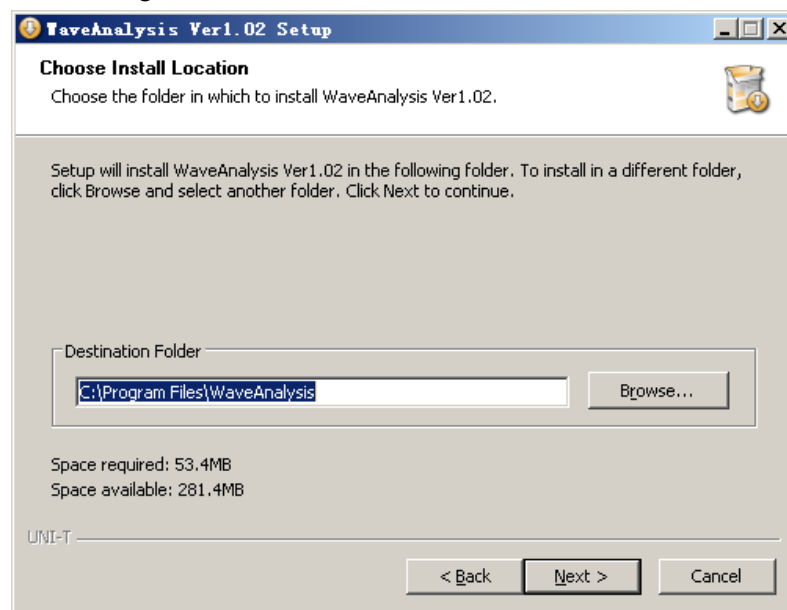
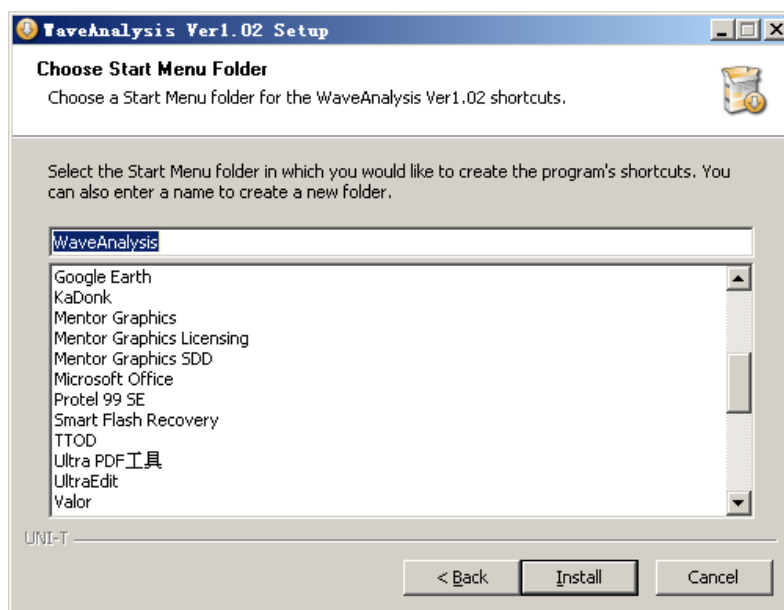
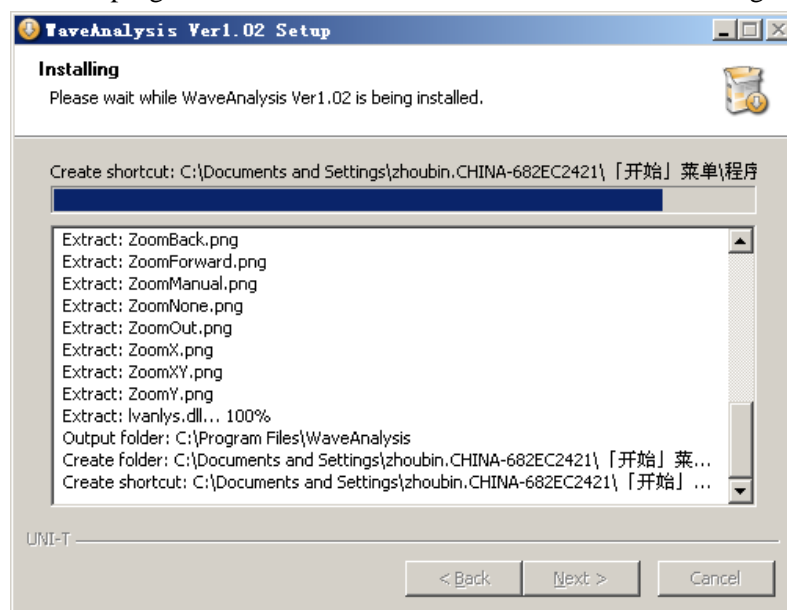

Fig. 1-4
Fig. 1-5
Fig. 1-6
Step three: Read the prompt in Fig. 1-3 then click the **NEXT (N)** button to enter the next step, as shown in Fig. 1-4.
Step four : In Fig. 1-4, click **BROWSE (B)** to designate the installation path for the waveform analysis software then click NEXT. Alternatively, simply click NEXT for the default path and enter the screen in Fig. 1-5.
Step five : In Fig. 1-5, designate the path for quick installation of the waveform analysis software, then click NEXT. Alternatively, simply click NEXT for the default path and enter the programmed automatic installation screen shown in Fig. 1-6.